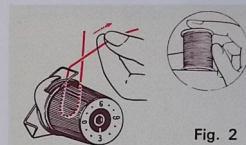

Fig. 2
2. Pull end of thread through hole in bobbin as shown in Fig. 2.
Place thread on spool pin as shown with thread coming from back of the spool. Draw thread through the top threading tube. Holding the spool stationary with right hand, pull the end of the thread between the tension discs as shown. Pull the spring wire loop up and past the top hook until the thread can be slipped into hook (See Fig. 2).